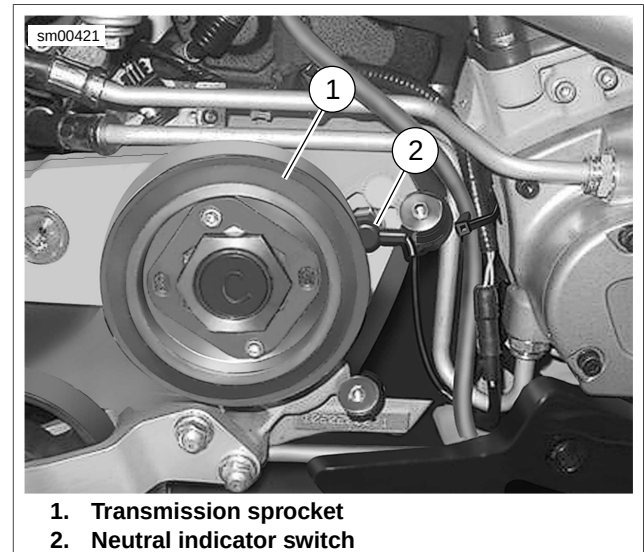

Figure 7-75. Neutral Indicator Switch Location
See Figure 7-75. The neutral indicator switch (2) is threaded into the transmission portion of the right crankcase half. It is immediately forward of the transmission sprocket (1). The sprocket cover must be removed to test the switch.
2. See Figure 7-75. Disconnect wire lead from neutral indicator switch (2). See 7.25 SPROCKET COVER WIRING.